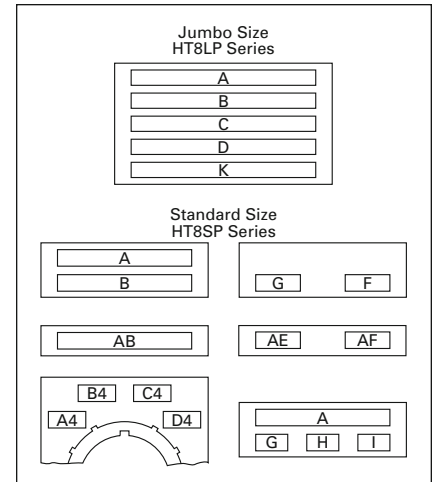

Figure 47-135. Legend Positions
- Insert the following into Order Notes: Legend, Letter Size per **Table 47-341** and Locations per **Figure 47-135**.